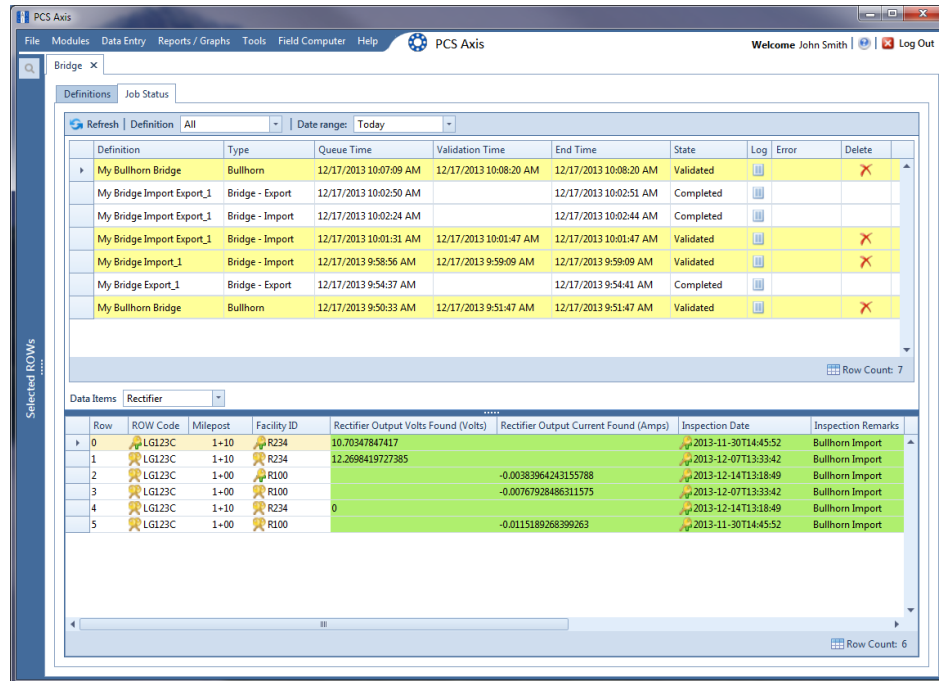

Figure 10-55. Job Status
- 26 To view the status of a Bridge session, click  **Job Status** in the *Definitions window* to open the *Job Status window* (Figure 10-55). Clicking  **Log** for a Bridge session opens the log file for the selected session.